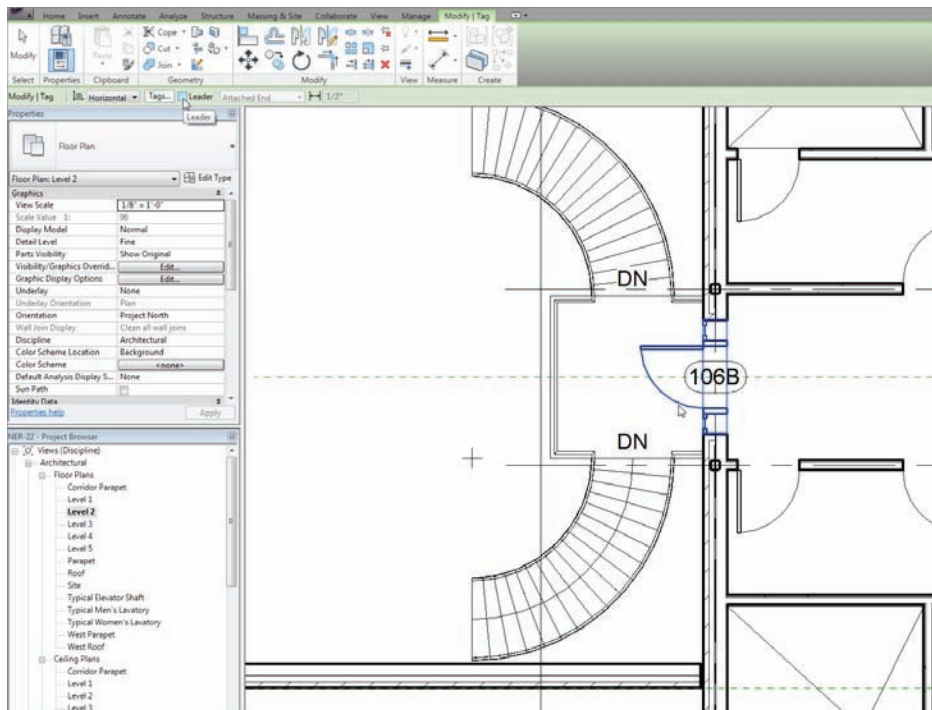

FIGURE 11.62 Tagging the door. Be sure you deselect Leader on the Options bar.
- On the Options bar, deselect the Leader option, as shown at the upper left in Figure 11.62.
- Pick the door shown in Figure 11.62. Your tag is added.